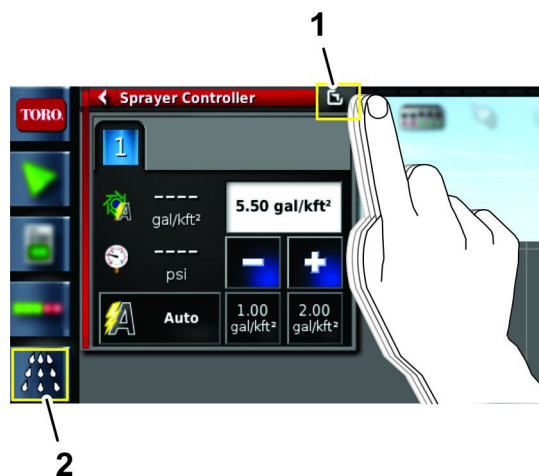

Figure 132
6. Press the spray rate controller icon, and then swipe the full screen icon in the upper right corner of the sprayer controller window (Figure 132).